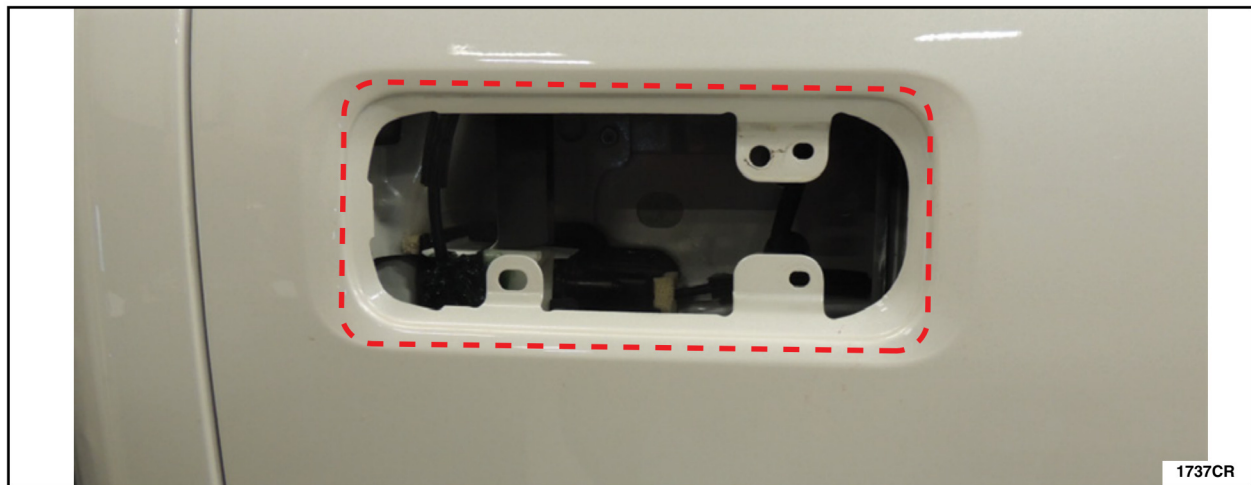

FIGURE 51
35. Using a clean shop towel and isopropyl alcohol, thoroughly clean inside the dotted lines on the mating surface area of the exterior rear door handle opening. See Figure 51.